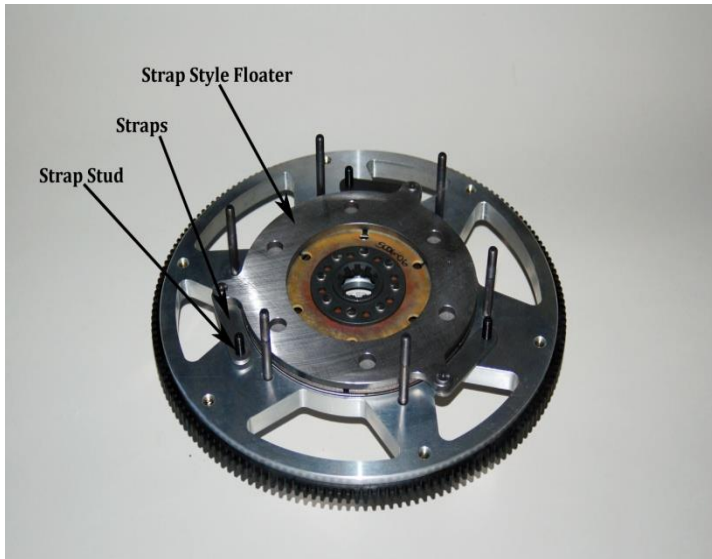

Figure 6
- 9) Strap Drive models only: Install bottom disc, floater with straps onto stud in flywheel, top disc, pressure ring, (shim packages if removed) and pressure plate assembly. Both drive straps must be offset and not on top of each other. The drive straps must be offset!! **Do not use thread adhesive (Loctite) on the studs or nuts!** Tighten the strap nuts to 25 ft lbs. See Figure 6.